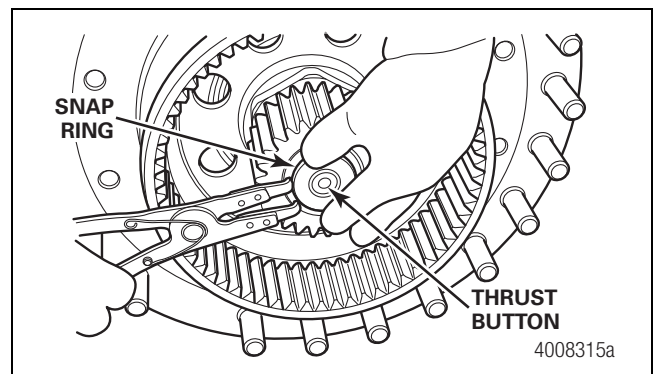

Figure 13.9
12. Install the retaining washer (if equipped) and snap ring on the end of the axle shaft. Figure 13.9.
14. Install the thrust button into the end of the axle shaft. Figure 13.9.